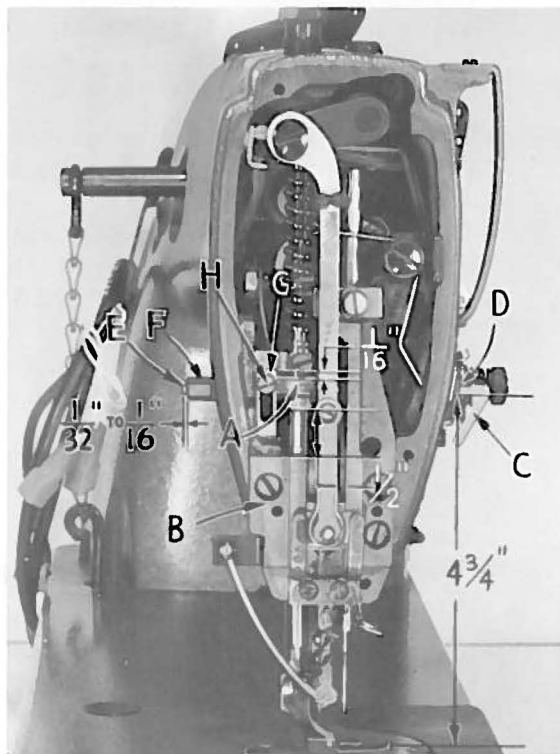
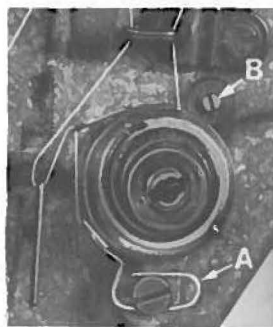

Fig. 16B
Fig. 18A
The presser bar connection (A, Fig. 16B) should be set so that it is $\frac{1}{2}$ inch above the knife guard frame (B) on Style 63400 KD.
Set the needle thread take-up wire (C, Fig. 16B) so that the under side of the wire is 4 3/4 inches above the throat plate. To make adjustment merely loosen screw (D), move take-up wire as required and retighten screw.
1. Set the tension assembly so that the tension discs are centered on the check spring eyelet (A, Fig. 18A).
2. Solenoid plunger pin (E, Fig. 16B) must touch tension release pin and the end of solenoid plunger pin must protrude a minimum of 1/32 inch to a maximum of 1/16 inch. If adjustment is required move tension post assembly in or out by loosening set screw located under machine arm and moving stop screw (B, Fig. 18A) as required.
3. Tension release solenoid is secured to flat of bushing (F, Fig. 16B) with a set screw in bracket. Solenoid plunger pin (E) is to have approximately .005 inch clearance between it and the tension release pin without thread between the tension discs.
4. The manual tension release cam (G, Fig. 16B) should be set so that it will not release thread tension when the presser foot is raised for back tacking.